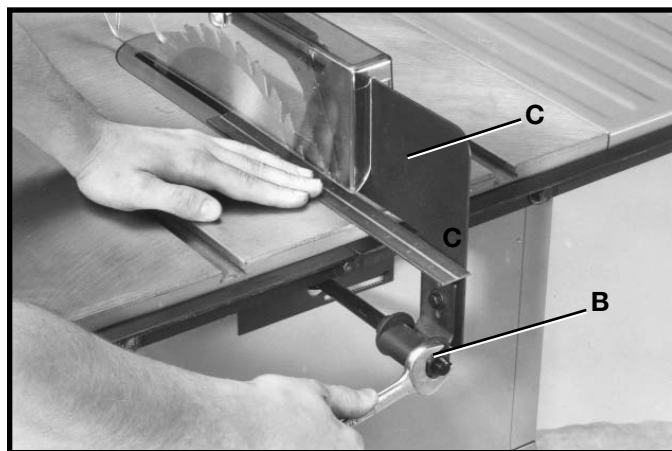

Fig. 29
5. Check the alignment of the splitter (C) Fig. 29, to the saw blade using a straight edge as shown. If alignment is necessary, loosen nut (B), align splitter (C) and retighten nut (B).